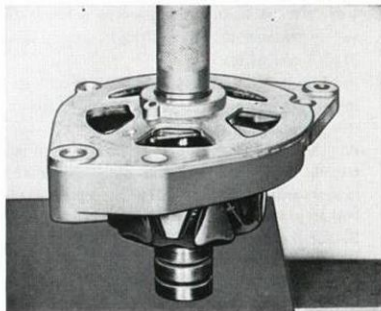

Fig. 3-66. Assembling the rotor and drive end shield
3. Press the drive end bearing shield and spacing ring on the rotor, see Fig. 3-66.